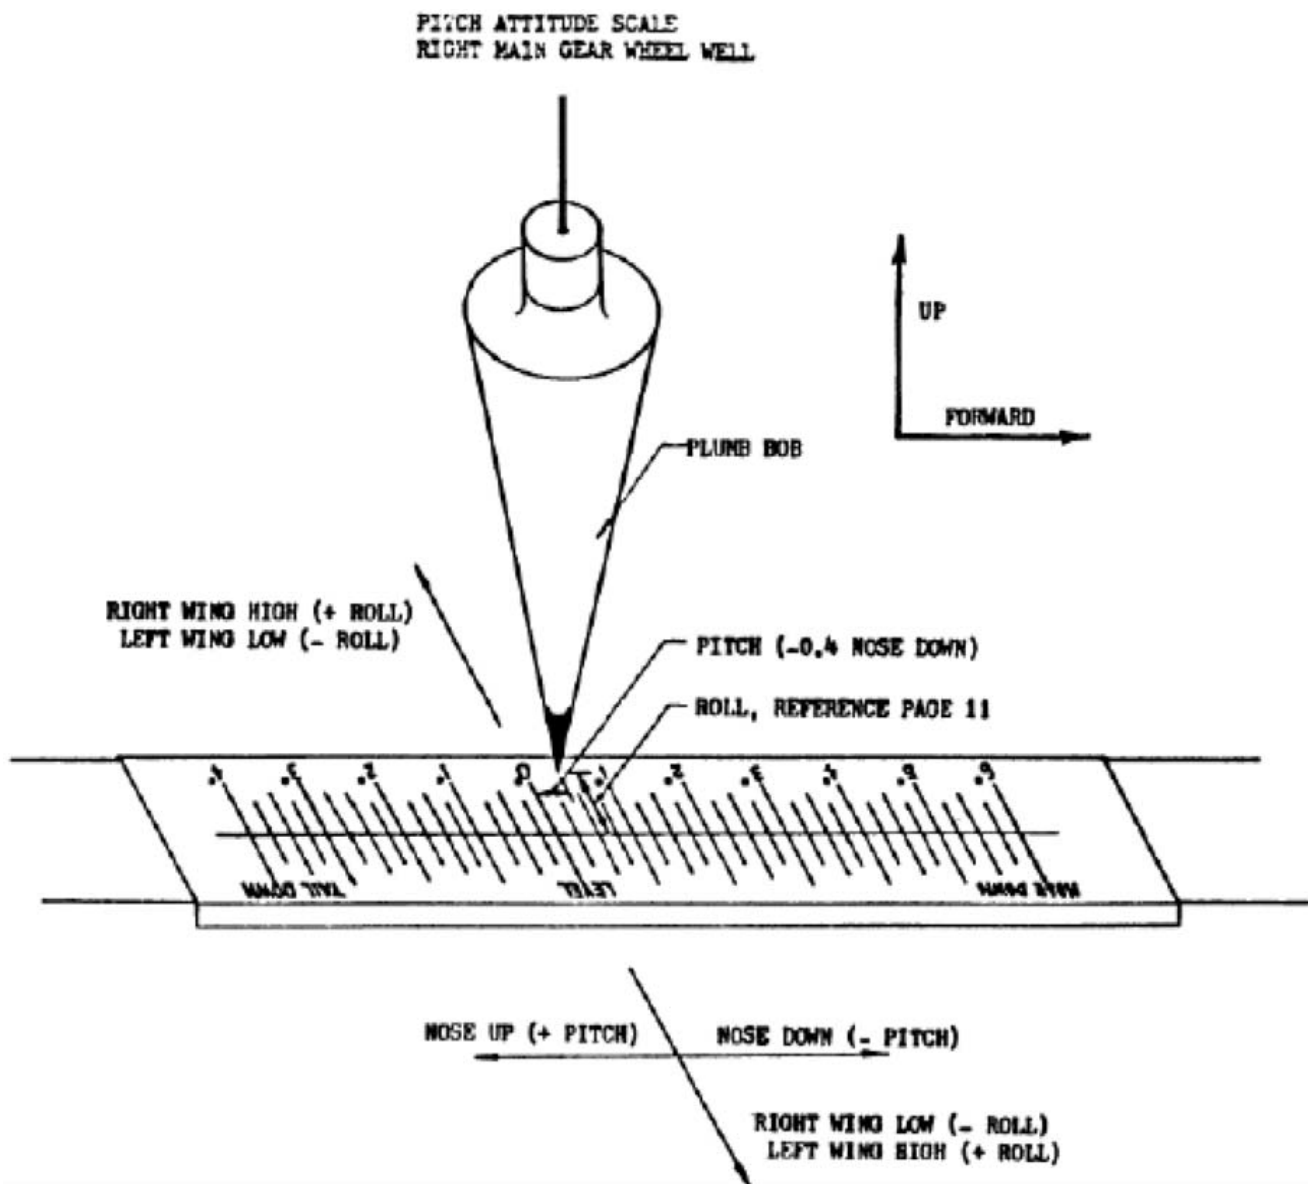

Figure 5-21: Pitch Attitude Scale
- A. Aircraft attitude can be determined by the use of a plumb bob with reference to the pitch attitude scale in the right wheel well. Refer to Figure 5-21: "Pitch Attitude Scale" for a diagram of the plumb bob.